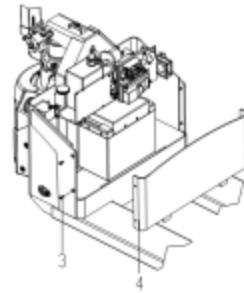

Fig. 12
- (Fig.12) Screw out the screw 3 and remove the rear case cover 4;